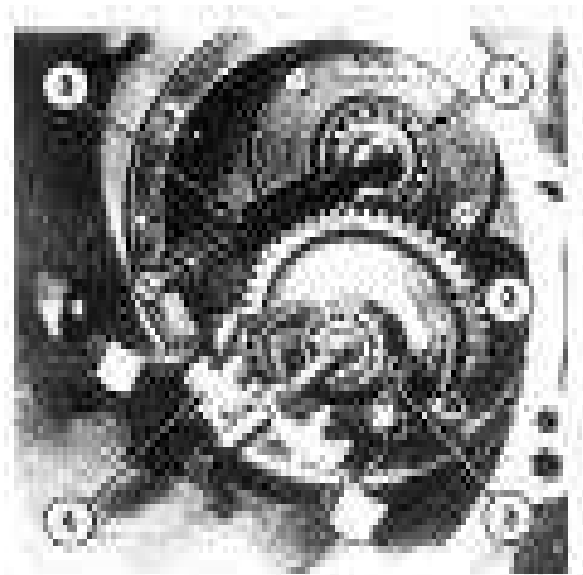

Figure 13
7. Farmtrac 65 EPI with Live P.T.O. use Puller, Tool No. EF-0800 to remove the countershaft front bearing, Figure 13.